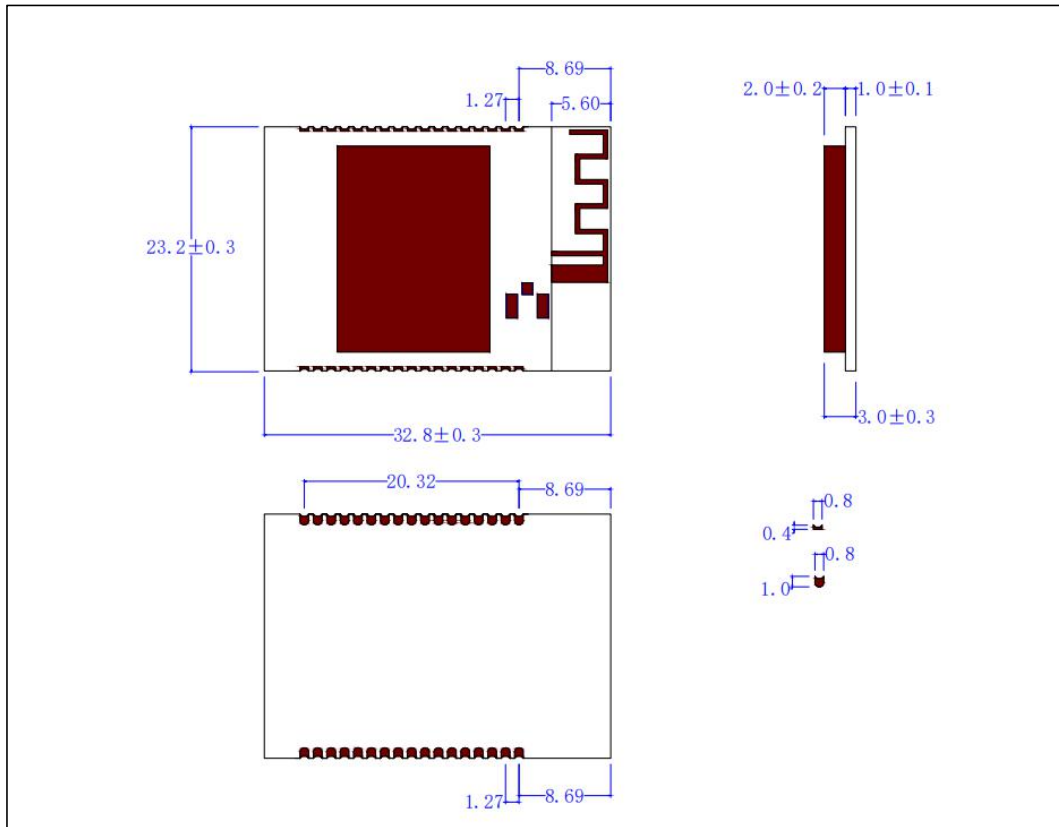

Figure 3. X-C13SL-1 Physical Dimensions
- Size: Figure 3
- X-C13SL-1 Physical Dimensions (Unit: mm),please refer to Figure 3: